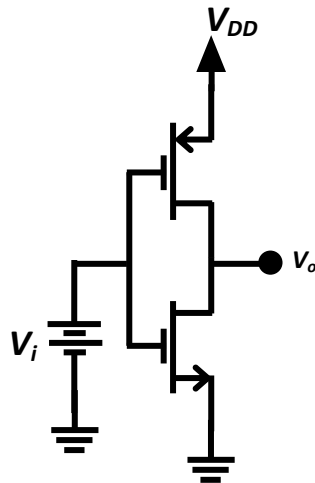

Figure 3 CMOS inverter
CMOS technology uses NMOS and PMOS transistors that act as complementary switching transistors on the same wafer (substrate) or chip. The complementary transistors work in a push-pull mechanism such that when one transistor is ON then it becomes a short circuit, but when it is OFF it acts as open circuit. The push-pull switching mechanism is useful in building digital circuits. The simplest digital CMOS circuit is the inverter which is made of a PMOS transistor and an NMOS transistor as shown in Figure 3.
During the transition from 0 V (low) to V_{DD} (high), the CMOS inverter transitions through five operating regions as shown in Figure 3; these regions are summarized in Table 1. Note that the current is non-zero when the output of the inverter is transitioned; hence, the power dissipation is non-zero. This explains why the power dissipation is proportional to switching frequency. Note that in Region 3 $\left| \frac{dV_o}{dV_i} \right|$ is maximum, so it acts as an amplifier. In this experiment, you will build a CMOS inverter and you will investigate the different regions of the inverter. Then you will bias the inverter in Region 3 and test it as an amplifier.
1. Set up the CMOS inverter circuit shown in Figure 3. Use CMOS Dual Complementary Pair Plus Inverter CD4007. The complementary pair must be Q2 (P and N) on the CD4007; Q1